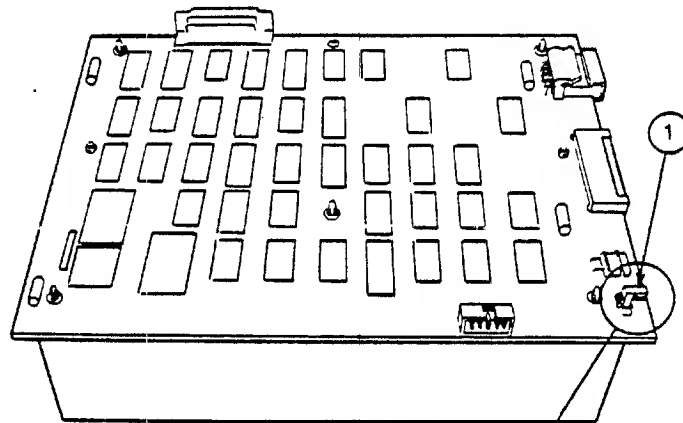

FIGURE 4
6. Unplug the LED cable from its socket on the controller PCB (Figure 4, #1).